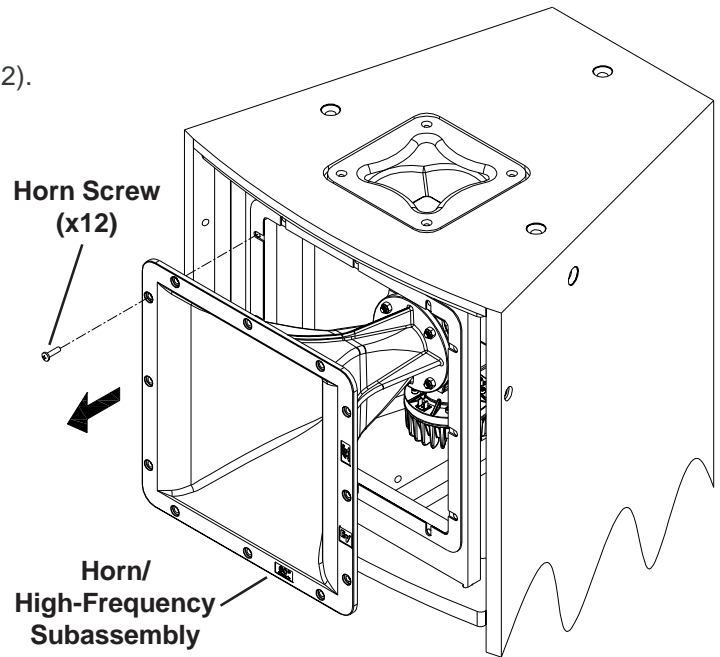

Figure 3:
2. Remove the (12) screws that attach the horn to the enclosure, and disconnect the wires that attach the ND2 to the input panel (Figure 3). The jumper that is between both ND2's can remain connected.
4. Reconnect the wires that attach the ND2 to the input panel (reverse of Figure 3). The yellow wire corresponds to the positive terminal, and the yellow and black wire corresponds to the negative terminal. Reattach the horn to the enclosure using the (12) screws.